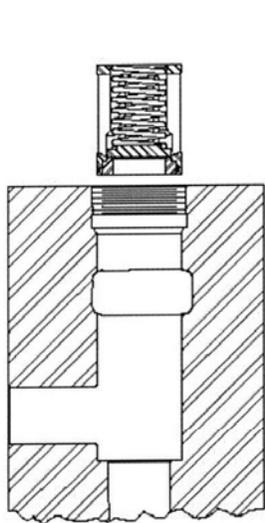

Figure 10
1. After all parts have been thoroughly inspected and cleaned, assemble each valve unit on top of the pump **leaving off the seals**. Make certain the seat is shouldered up in the cage and the spring is correctly positioned on the disc. Now, check the spring for correct pre-load which should be with 1/8" to 3/16" of spring extending above top of cage. (See Figure 10, page 43.)